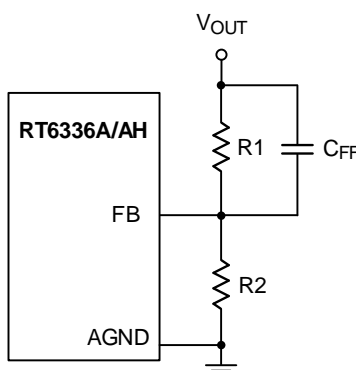
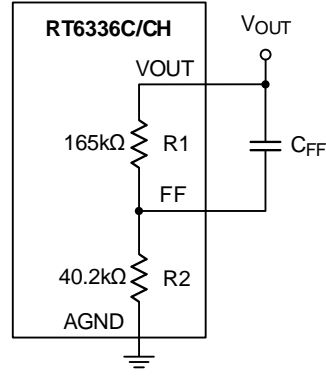
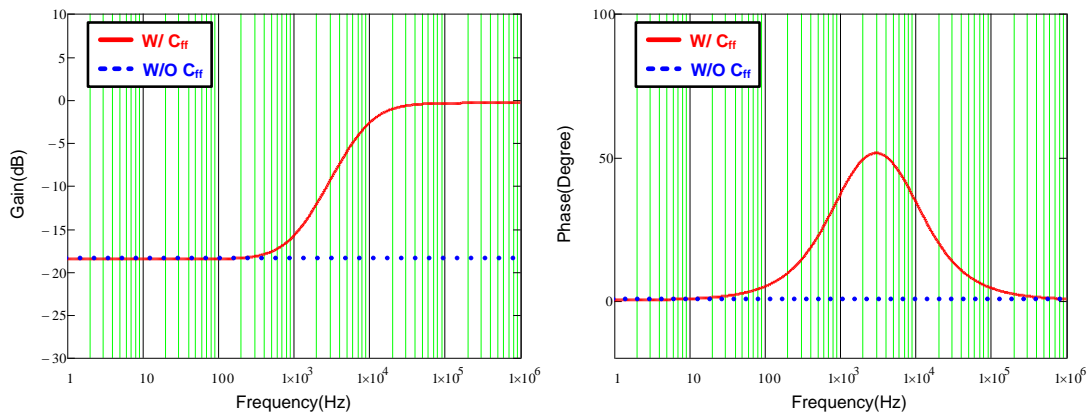

Figure 16. Feedback Loop with Feedforward Capacitor for the RT6336A/RT6336AH
Figure 17. Feedback Loop with Feedforward Capacitor for the RT6336C/RT6336CH
Figure 18. Bode Plot with Different Feedback Loop Conditions
To save time for compensator design and to reduce the layout area through external components, the components of the compensator are integrated in the IC. However, this integrated compensator might not be suitable for every load transient specification. Hence, to make the device more adaptable, the feedforward capacitor CFF is used in the feedback loop to improve transient response, as shown in Figure 16 and Figure 17. Figure 18 shows the comparison result of the bode plot with different feedback loop conditions. Referring to Figure 18, by connecting a CFF in the feedback network, the gain and phase are raised in the mid-frequency range, which not only extends the bandwidth, but also boosts the phase margin. Moreover, there is also a high-frequency pole to eliminate high-frequency noise. Consequently, those features of the feedforward feedback network allow the device to have faster response to different load transients.
According to Figure 18, the maximum phase boost that occurs between the zero and pole frequencies is defined as the maximum phase boost frequency, as expressed in equation (4). Hence, in order to achieve the maximum phase boost by adding C_{FF} in the device, the system's original bandwidth has to be located at maximum phase boost frequency.